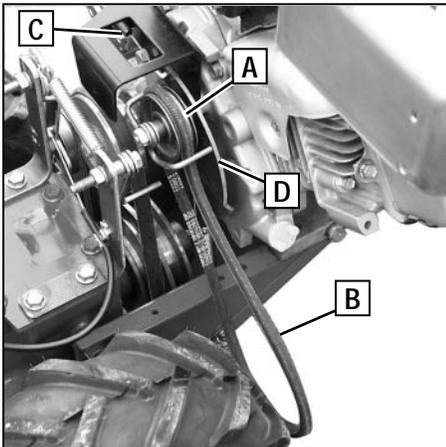

Figure 5-8
NOTE: The photographs in this Section show a reverse drive assembly (pulley (A), Figure 5-8), belt (B), cable (C) and linkage (D)). These components are not used on Model 12226.
NOTE: The photographs in this Section show a reverse drive assembly (pulley, A, Figure 5-8), belt (B), cable (C) and linkage(D). These components are not used on Model 12226.